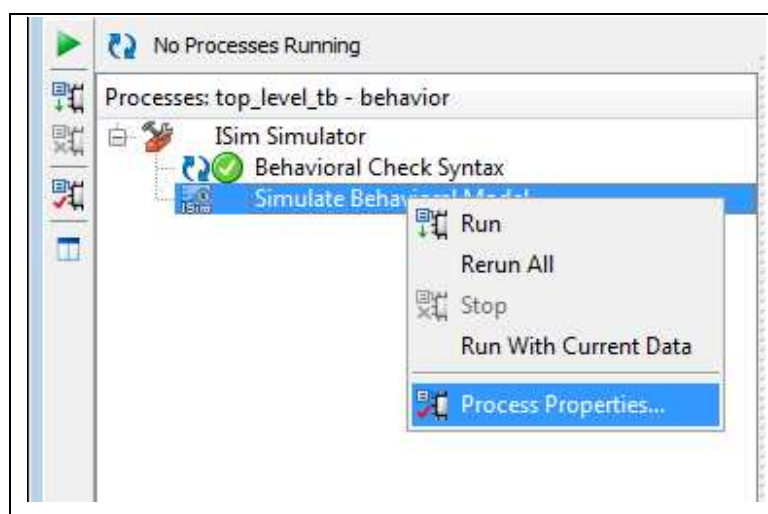

Figure 4.15: Portion of Project Navigator screen, with Simulate Behavioral Model, and Process Properties selected.
3. Right click on **Simulate Behavioral Model**, and select **Process Properties**, as shown in Figure 4.15.